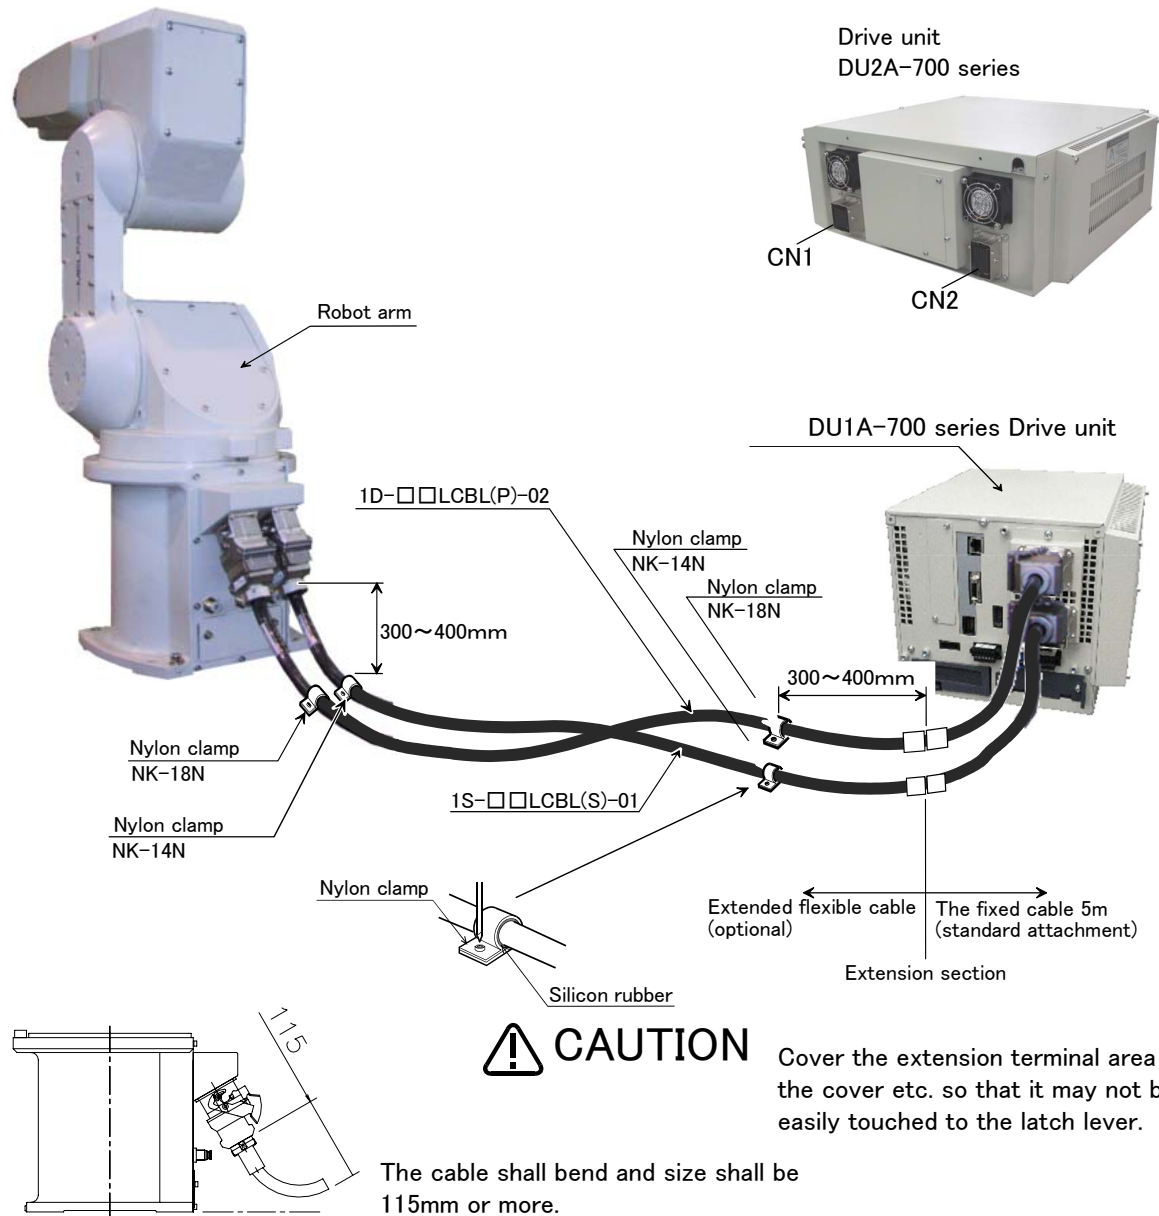

Fig.2-11 : Fixing the flexible cable
- (1) Connect the connector to the robot arm .
- (2) Wind the silicon rubber around the cable at a position 300 to 400 mm from the side of robot arm and extension section as shown in Fig. 2-11, and fix with the nylon clamp to protect the cable from external stress.